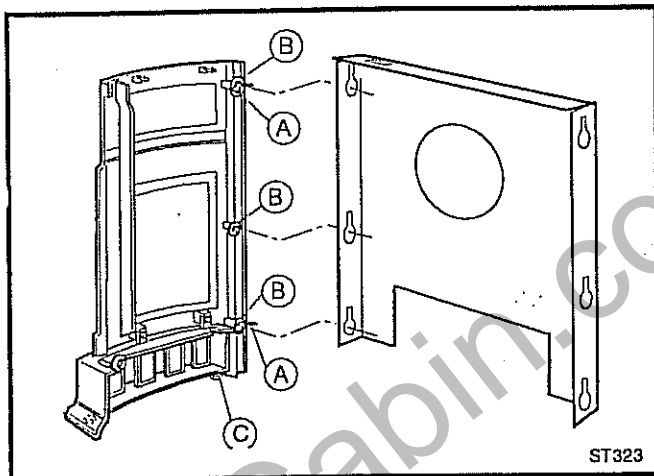

Fig. 27 Fasten the left side to the rear shroud.
1. Use only the rear shroud supplied with this firebox. Attach the rear shroud to the left side plate by aligning the key holes with the two wingbolts (A) installed in the side. (Fig. 27) If necessary, turn the wingbolts to orient the blades vertically. Slide the shroud downward to engage it behind each washer (B) and then tighten the wingbolts.
2. Lift the PDV20 firebox assembly and slide it back into position in the shell. The base of the firebox should rest on the side support shelves as in Figures 31-32. Type A has two steel tabs on each side, which engage the raised ridge on the top edges of the firebox base. Type B uses a large washer at the bottom forward corners of each side to engage notches in the undersides of the firebox base. Make sure that either the large washer or the steel tabs engage the firebox base as shown in Figure 32. Properly positioned, the firebox will be level and locked in place. If not, adjust the levelling screws (C, Fig. 27) in the base of each side to keep the entire unit level.